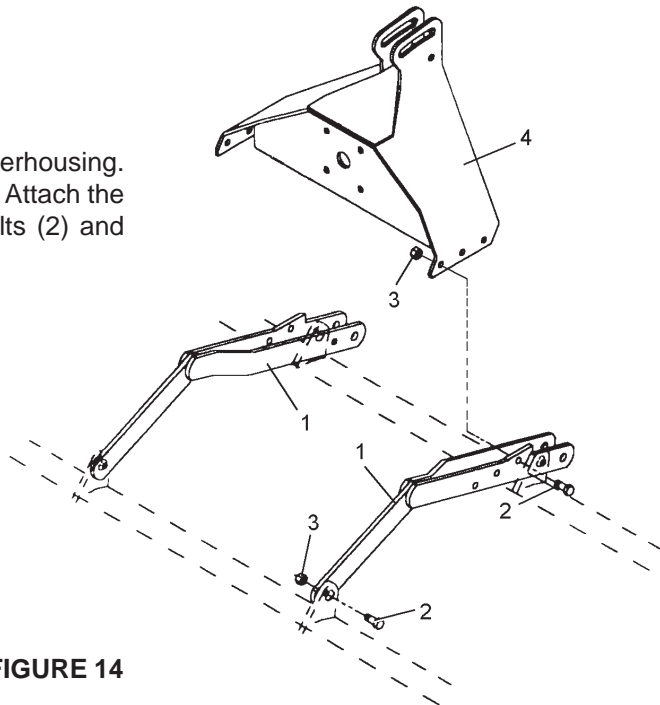

FIGURE 14
Attach the right and left Overarms (1) to the cutterhousing. Secure with 5/8 x 1-3/4 bolts (2) and locknuts (3). Attach the A-Frame Weldment (4) to the Overarms with bolts (2) and locknuts (3). **Figure 14.**